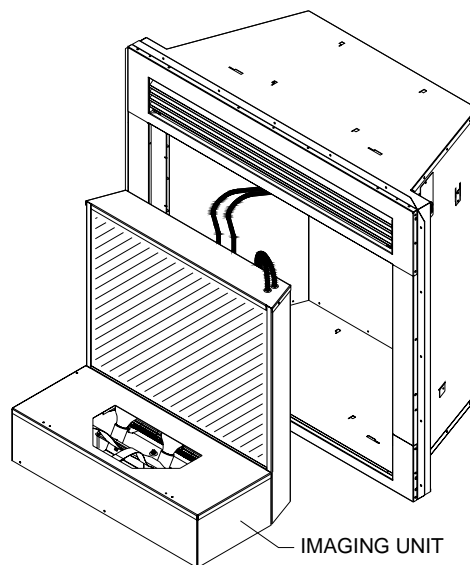

Figure 43 - Removing Imaging Unit
3. Slide the entire imaging forward and lift out through the front opening (see **Figure 43**).